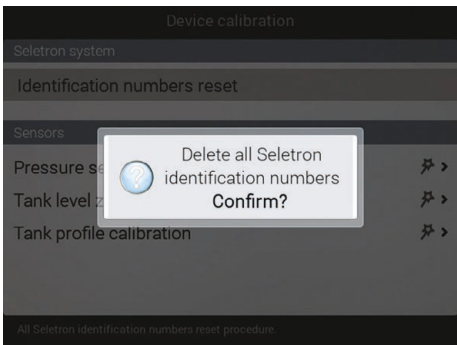

Fig. 139
- The message in Fig. 139 is displayed: confirm reset by pressing **OK** again.